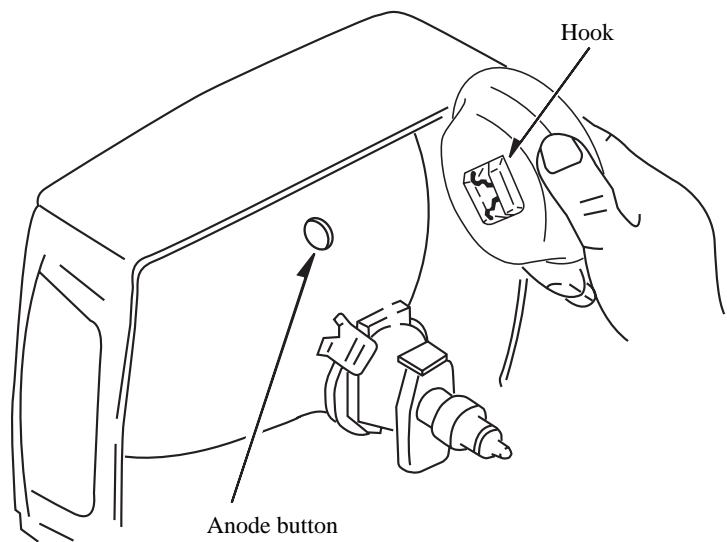

Fig. 5-2
(6) Apply the hook on one side to the anode button as shown on the figure. (See Figure 5-2)